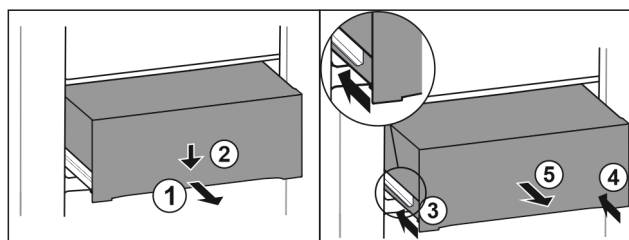

Fig. 115
- Pull out drawer half-way. Fig. 115 (1)
- Push the drawer down at the front. Fig. 115 (2)
- Push the left rail in by about 2 cm. Fig. 115 (3)
- Push the right rail in by about 2 cm. Fig. 115 (4)
- Remove drawer to the front. Fig. 115 (5)